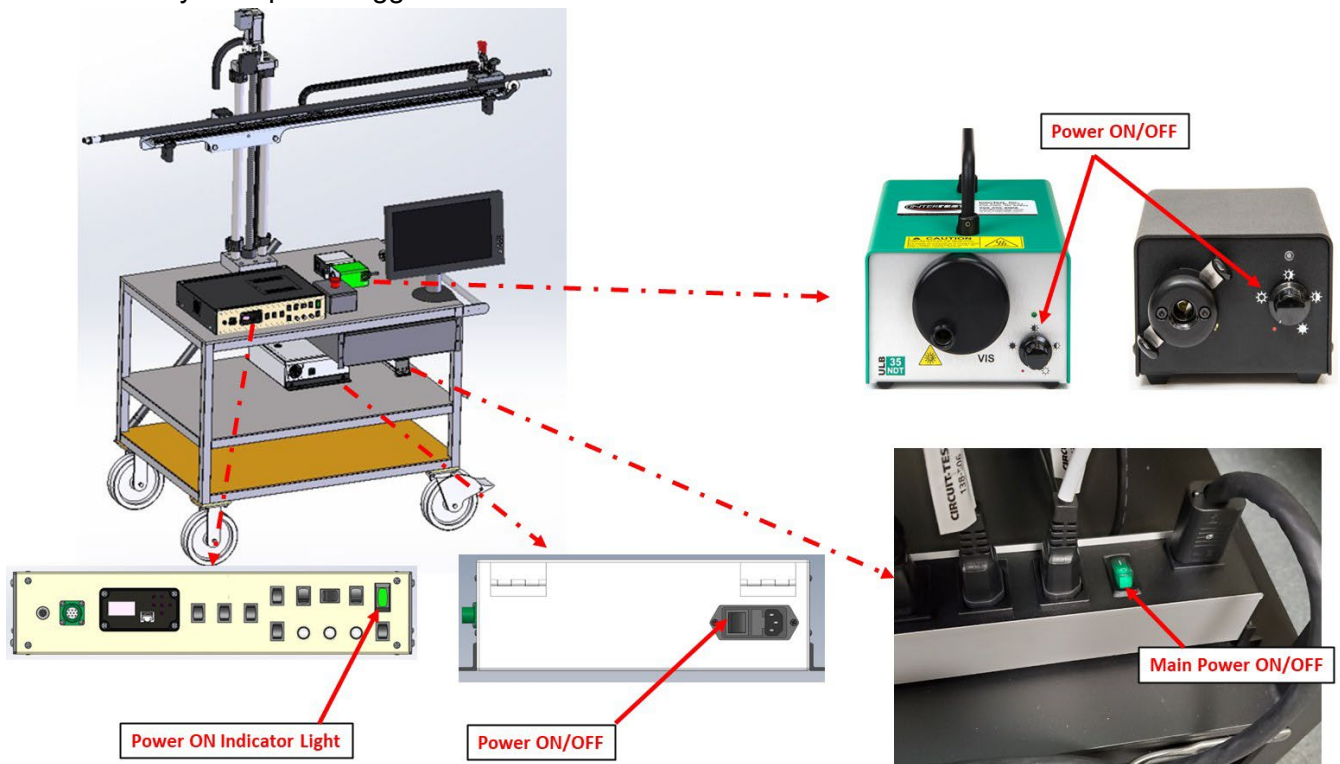

Figure 14 Power ON/OFF
-Make sure Main Power is turned OFF See Figure 14
- 7) Turn on Power on each Unit then turn ON Main Power Strip Per Figure 14